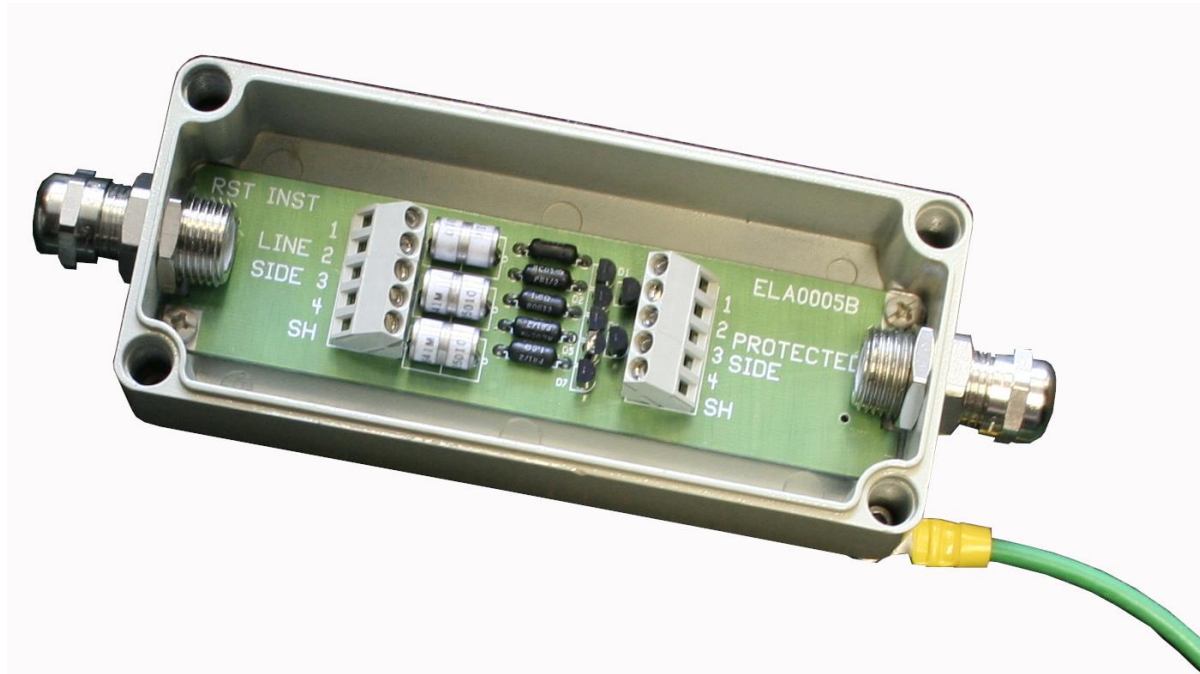

FIGURE 1-1 4N: 4-WIRE AND SHIELD STAND-ALONE SURGE PROTECTOR
- A 4-wire and shield stand-alone transient protector in a NEMA-4X enclosure (Figure 1-1), and